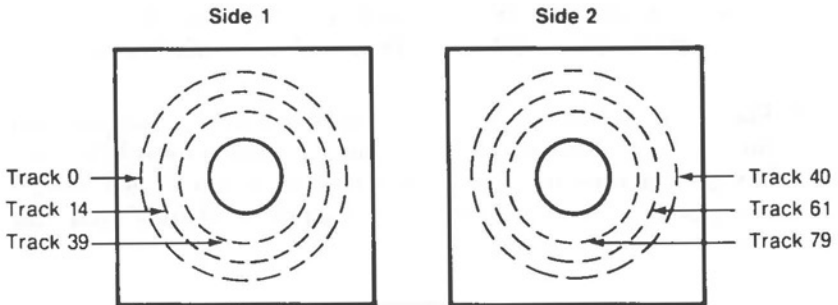

Figure 1-5 Diskette Track Layout
5. Although the metallic oxide coating over the diskette surface is uniform, it is, for purposes of recording and reading data, considered to consist of concentric circles of magnetizable spots. Each circle is called a "track". On the standard 5-1/4-inch diskette, 40 tracks are defined to exist on each side of the diskette. The tracks are numbered 0 through 39 on one side, and, if the diskette is double-sided, 40 through 79 on the other side (see Figure 1-5).